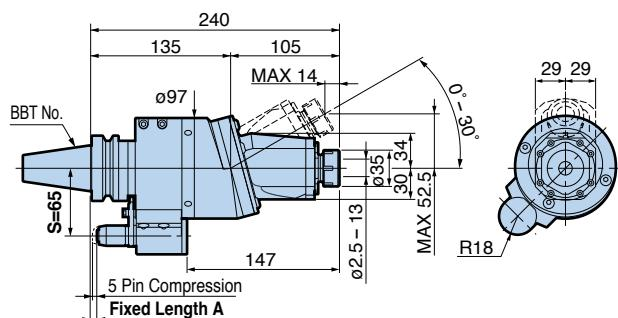
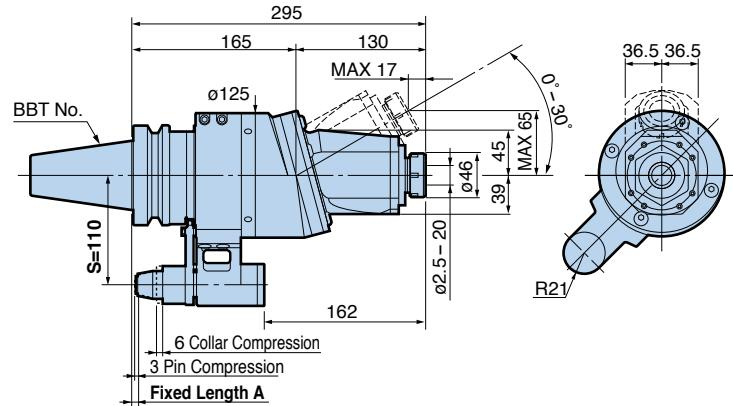

Fig. 1
Fig. 2
**SMALL BORE type**Fig. 1 MAX.2,000min-1Fig. 2 MAX.2,000min-1